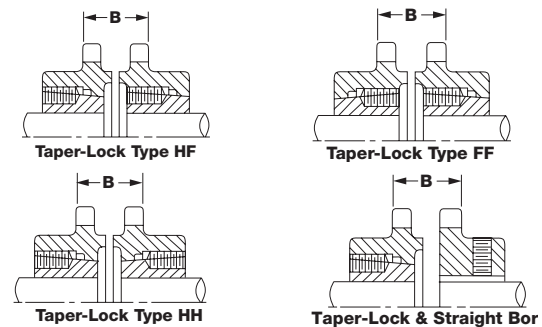

Figure 1 - “B” Dimension
4. Shaft separation for the Dodge chain coupling should be set per appropriate “B” dimension in Table 2. “B” dimension is illustrated in Figure 1.